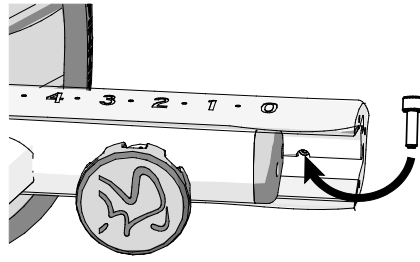

Figure 7
2. Insert one bolt ③ into the underside of the seat slider and fully tighten it to set the travel limit (Figure 7).